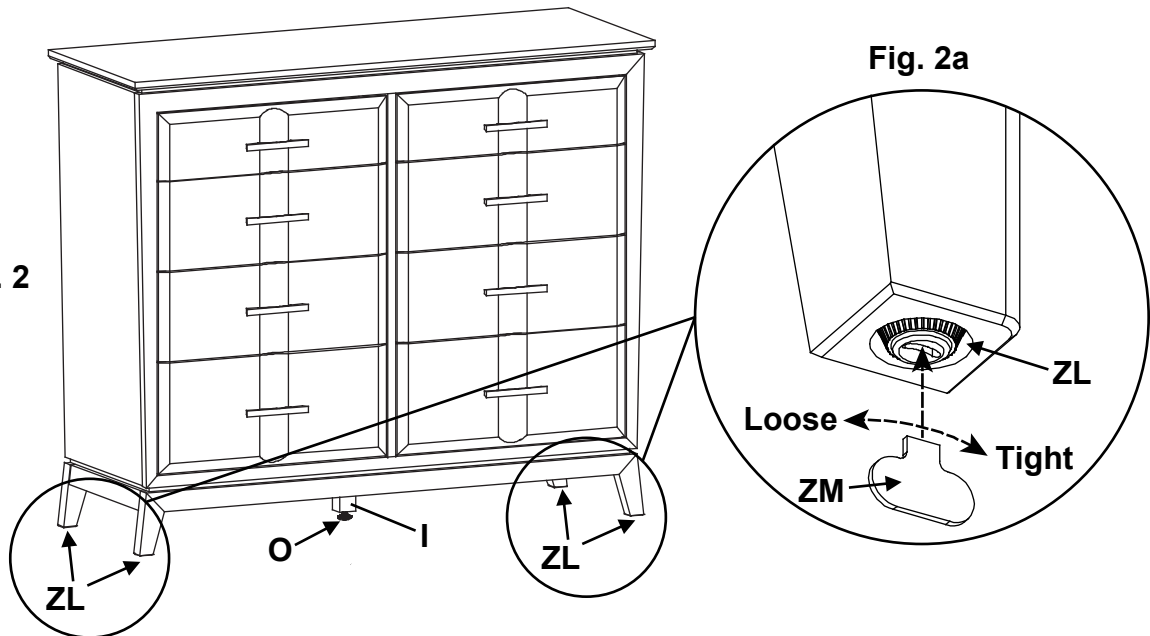

**Fig. 1**
1. Remove screws from the plywood supports and side aprons. Recycle or discard. See Figure 1.